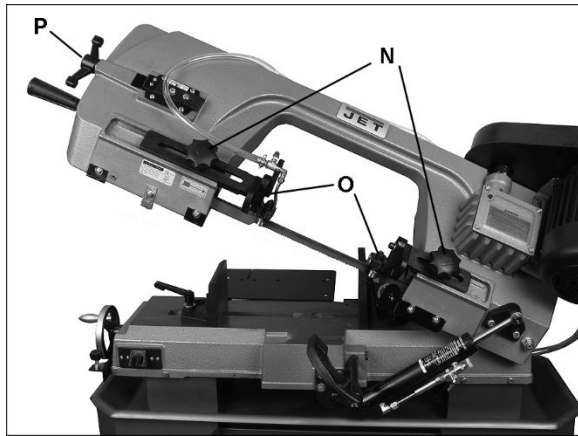

Figure 8-7: blade guide adjustment
5. Release tension on blade by turning tension handle (P, Figure 8-7) counterclockwise. Remove blade. (Use gloves when handling sharp blades).
3. If blade is properly adjacent to wheel flange, slide blade guide assemblies as far apart as possible, and tighten in position with knobs (N, Figure 8-7).
4. Push on blade to test tension. Finger pressure should cause approximately 0.004" deflection. Turn blade tension handle (P, Figure 8-7) until proper tension is achieved. For more precise measurement use blade tension gauge (not provided).